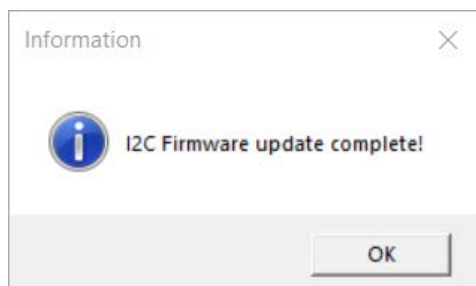

Figure 164. I2C FW Update Success Message
- update via I2C: Figure 164 shows the confirmation pop-up window for successful FW Update.